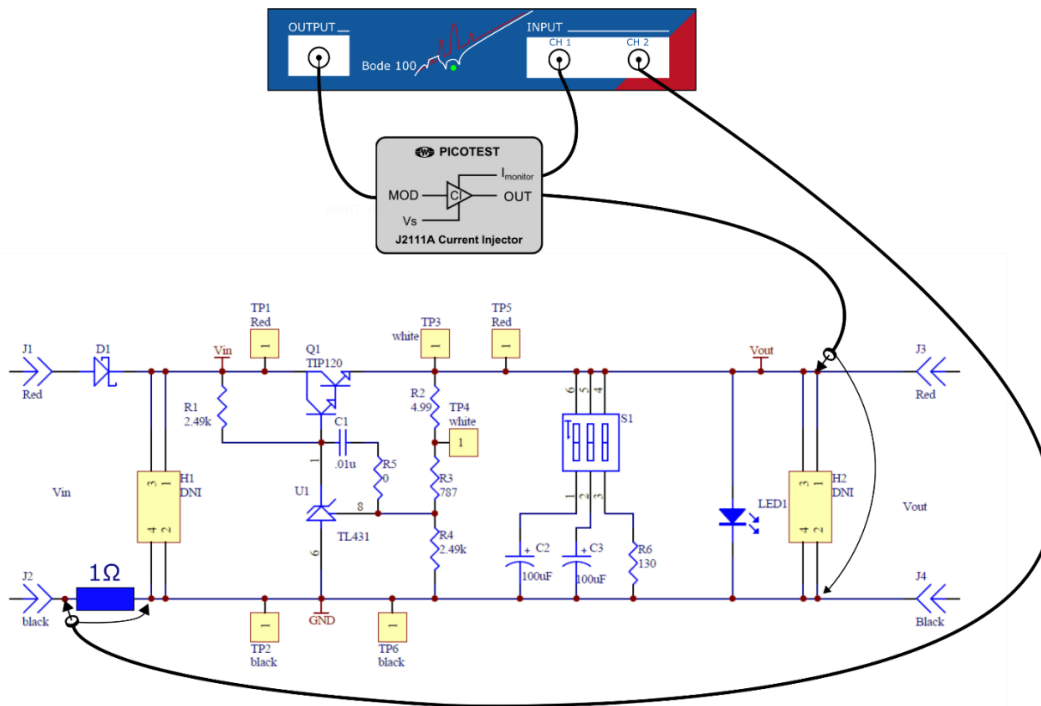

Figure 4: Reverse Transfer measurement setup
**Note:** We cut the connections to the ground, to do not short the shunt resistor (also see Figure 4).